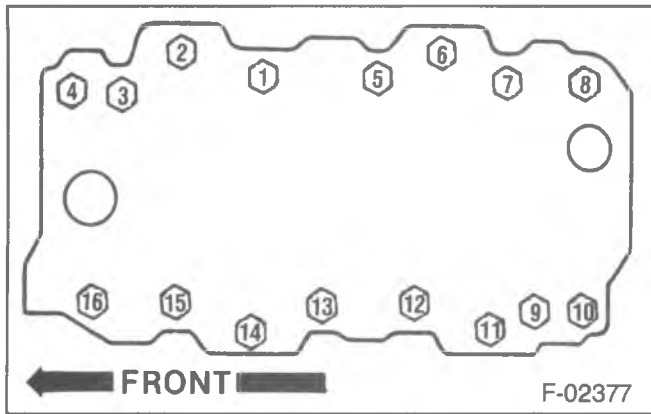

Figure 6—Intake Manifold Tightening Sequence
↔ Install or Connect (Figure 6)
- Bolts to 40 N·m (30 ft. lbs.). Use the tightening sequence shown in figure 6.